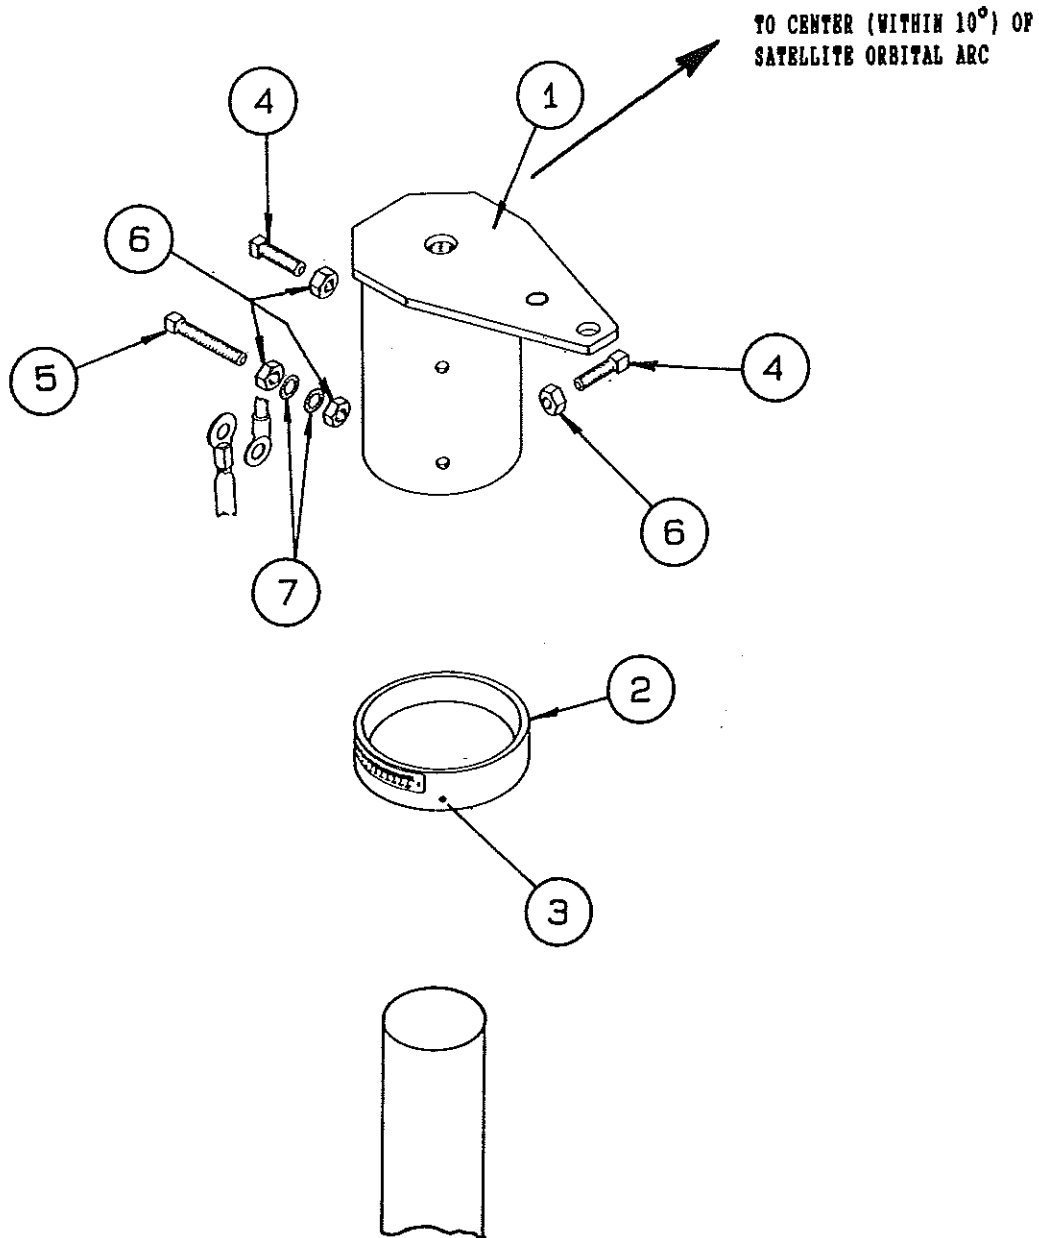

FIGURE 4.1-1
As shown in figures 4.1-1 and 4.1-2, assemble the following items in the listed sequence.
Step 1: Place the azimuth collar onto the canister and secure with the three (3) 1/4-20 set screws. The orientation of the label will be set after the antenna is aligned to the satellite so it is only important at this time to be sure that the set of numbers needed is at the bottom of the label.
Step 2: Place the canister onto the mast and insert the eight (8) 1/2-13 square head set screws and 1/2-13 lock nuts. (Note that there is one 3" long set screw. It is to be placed in any hole at the bottom of the canister along with the two internal tooth lockwashers and two lock nuts for the purpose of grounding the antenna's electronics.) The canister must be oriented correctly in relation to the center of the satellite orbital arc in order for the azimuth Quick Repoint feature to work correctly. Refer to figure 4.1-1.
(REFERENCE FIGURE 4.1-1)